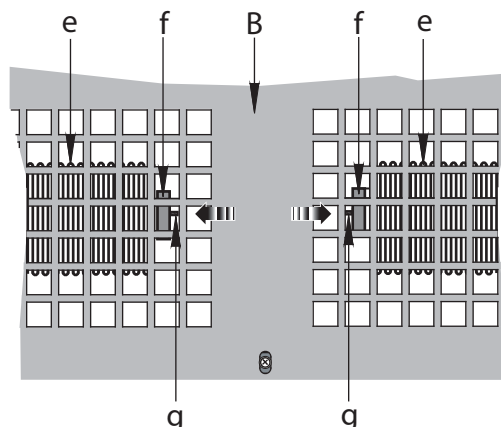

Fig. 11
You need to reset thermal cut-out(s), located behind the Air Inlet/Outlet panel (for detail view see **Fig. 11**).
To reset the thermal safety cut-out, press the black reset button (see 'g' in **Fig. 11**) on the side of the cut-out (see 'f' in **Fig. 11**) as described in steps 2 - 4 :-
2. Pass small flat head screwdriver through Air Inlet/Outlet panel 'B' to button side of cut-out (see 'g' in **Fig. 11**) avoiding contact with element (see 'e' in **Fig. 11**).
3. Press reset button in direction shown in **Fig. 11** to reset cut-out. (Cut-out clicks when reset)